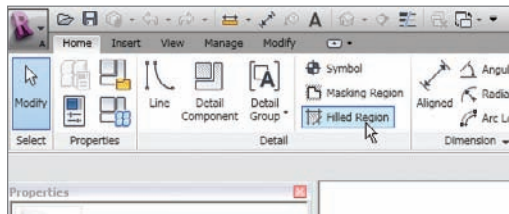

FIGURE 12.23 Click the Filled Region button on the Detail panel.
1. On the Detail panel of the Home tab, click the Filled Region button, as shown in Figure 12.23.